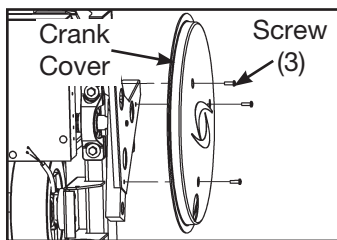

Figure 5
A. Using a Phillips screwdriver, remove the three screws securing each crank cover (and remove the crank covers). See Figure 5.
- C. Using a Phillips head screwdriver, attach the three screws securing each crank cover in place. See Figure 5.
- B. Using a Phillips head screwdriver, tighten the six screws and six washers securing each side cover. See Figure 5.